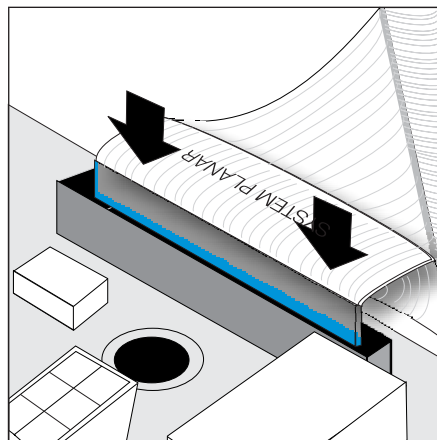

Figure 175. Install service controller cable into the system board
12. *Carefully* install the end of the ribbon cable (marked System P1anar) to the system board, being sure to install the cable straight in. See Figure 175 on page 441. Be sure to verify that the blue line on the cable connector end is not visible.